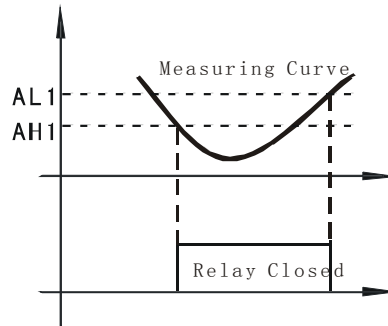

Figure 5
c) Set $AH1<AL1$ (or $AH2<AL2$): Normally used for lower limit alarm trigger. See Figure 5.